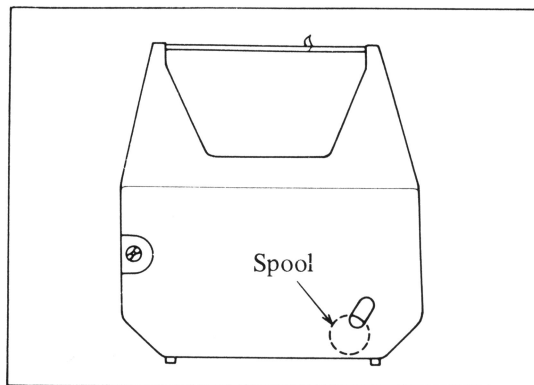

Fig. 2
- **Ribbon End (RE) detection function (See Fig. 2)**